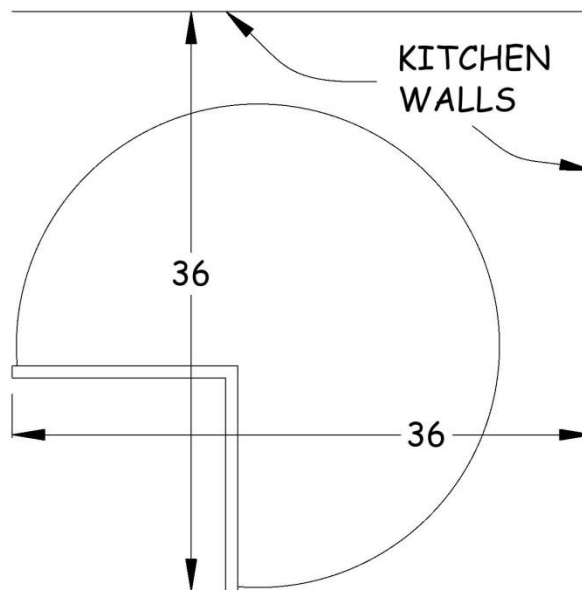

Figure 17-1. Corner Cabinet Installation
2. Set the corner carousel unit in place with the faces 36” from each wall as shown in Figure 17-1.